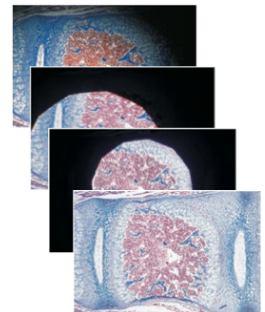

Fig 4: FD alignment
2. **Close FD** (Fig 3-1) to see edge, **focus** it by adjusting the **condenser height** (Fig 3-2), **center** if needed (screws in Fig 3-3, insert in holes Fig 3-4), **open FD** just enough to illuminate field of view (see images Fig 4)